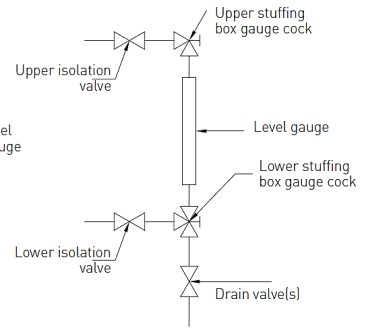

FIGURE 2B
- 5.2.2 Gauges with Stuffing Box (B/S) Gauge Valves and Isolation Valves (Figure 2B)